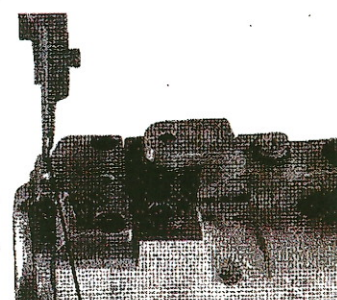

Fig.4
- Through the left hole in the needle bar (face the needle bar), then downward through the needle hole and pull about over 10cm, as show in Fig. 4.